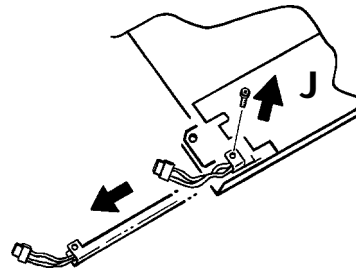

Figure 4.10.3d Tube removal
- d. Undo the tube securing screw ('J' in figure 4.10.3d) and carefully extract the lamp.